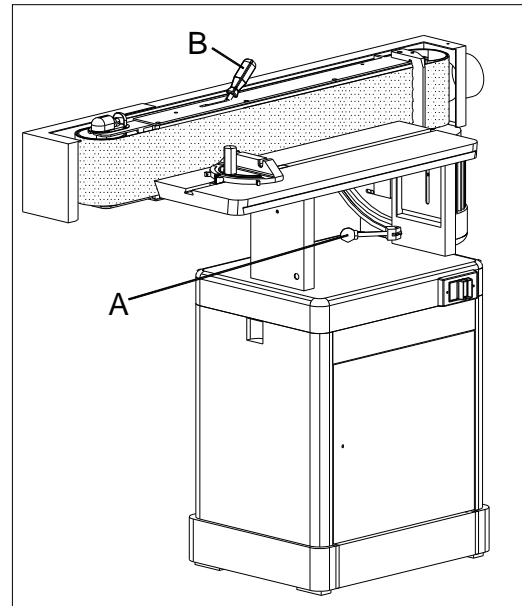

Fig: 4
1. SANDING TABLE CAN BE ADJUSTED 90° — 180° ,SEE FIG.4
2. ADJUST CLAMP HANDLE (B) AT DESIRED TO CHANGE NEW BELT. SEE FIG.4